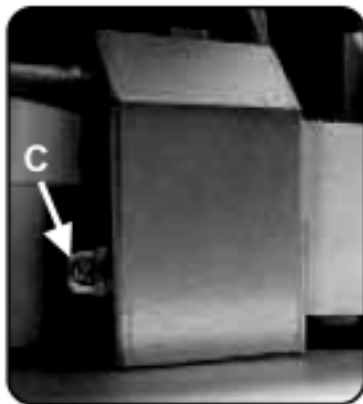

Figure 13/illus. 13
1) Remove the junction box cover by removing the screw on the left side of the junction box, as shown in Figure 13, letter C, and lifting the junction box cover up and off.